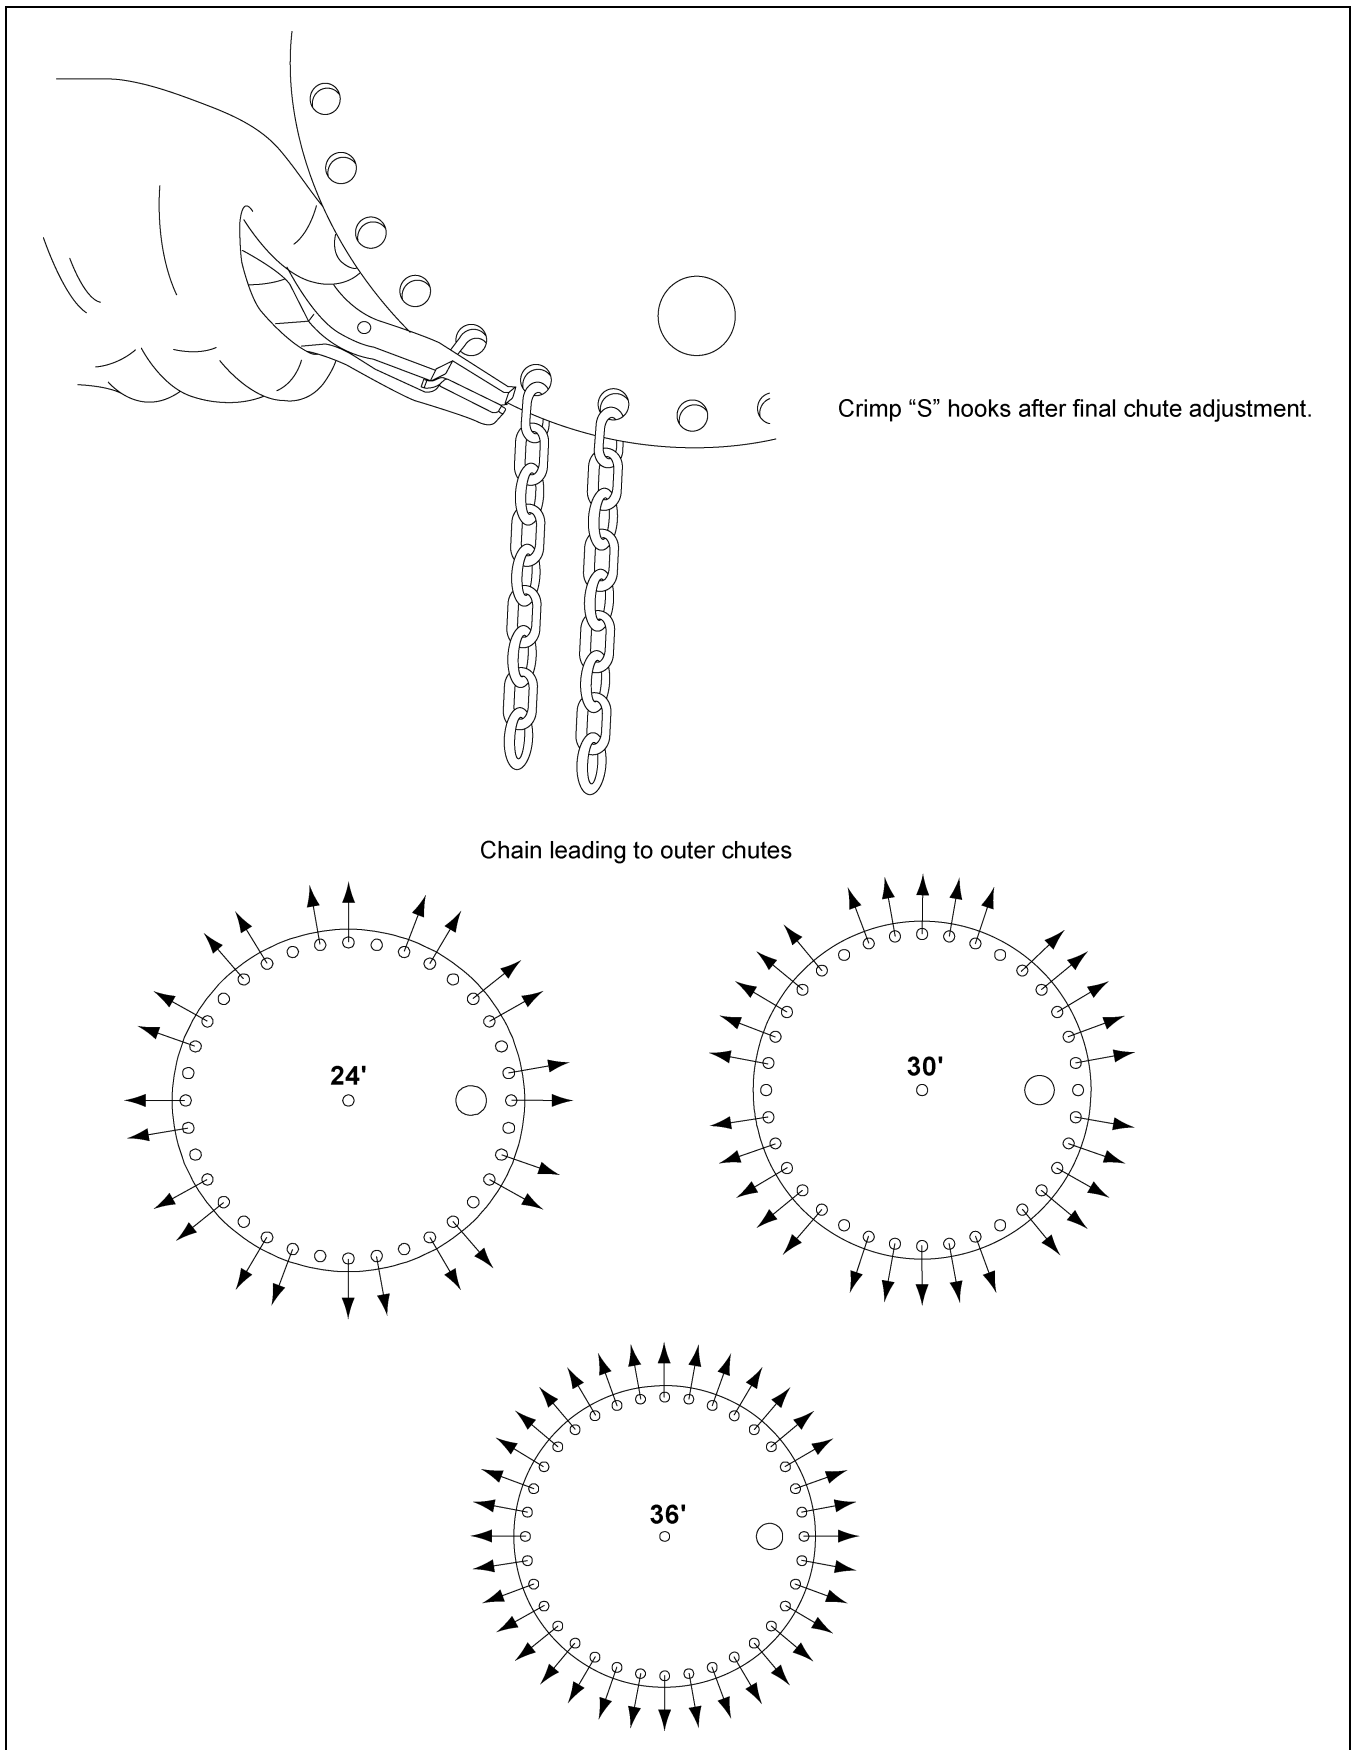

Figure 4C
1. The chain (C) is connected to a cable with a turnbuckle (D). The cable travels up the outside of the bin to the chute pulley on the bin eave and goes through the sidewall sheet into the bin to the center collar and down to the chain plate. (See Figure 4C on Page 15.) The plate is connected to the chutes via chains. The controller retracts the cable to close the chutes or extends the cable to open the chutes.